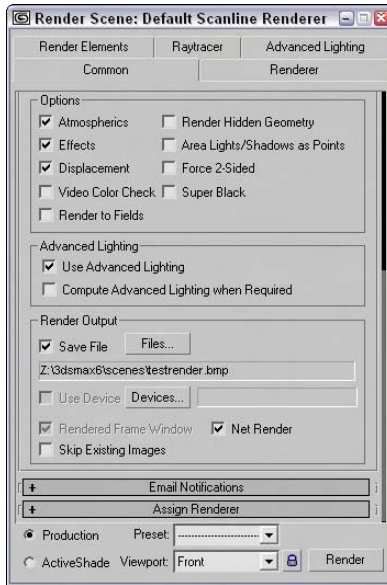

Figure 45-9: The Net Render option must be enabled to start a network rendering job.
6. In the Render Output section of the Render Scene dialog box, check the Net Render box, as shown in Figure 45-9. Change any other settings you want, such as selecting a viewport, and then click Render.